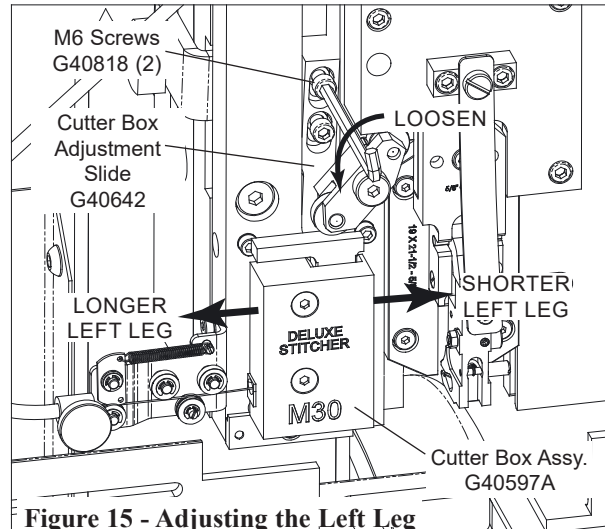

Figure 15 - Adjusting the Left Leg
2. Using a sample of thickness, turn Hand Wheel clockwise until the Adjustment Gauge firmly clamps it in the work thickness area as shown in Fig. 15.